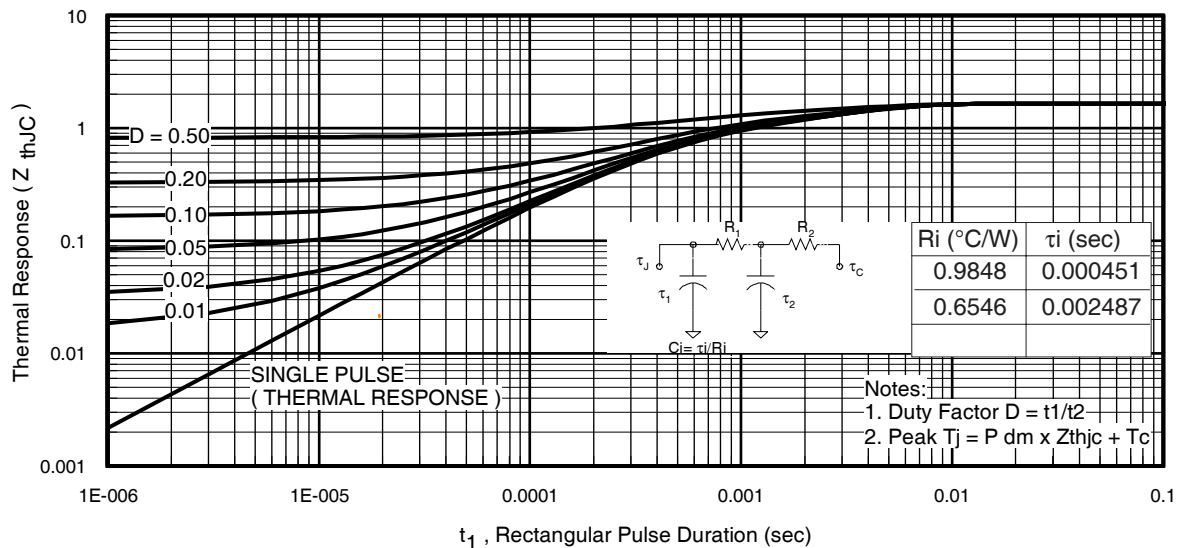
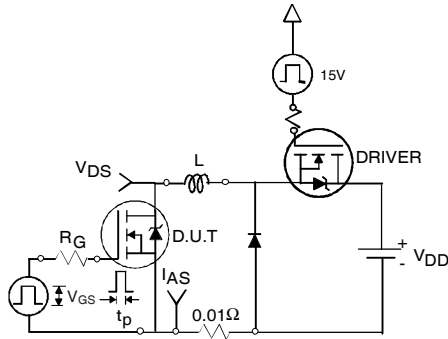

Fig 11. Maximum Effective Transient Thermal Impedance, Junction-to-Case
Fig 12a. Unclamped Inductive Test Circuit
- ① Repetitive rating; pulse width limited by max. junction temperature. (See fig. 11).
- ② Limited by T_{Jmax} ; starting $T_J = 25^\circ\text{C}$, $L = 0.11\text{mH}$, $R_G = 25\Omega$, $I_{AS} = 37A$, $V_{GS} = 10V$. Part not recommended for use above this value.
- ③ $I_{SD} \leq 37A$, $di/dt \leq 920A/\mu s$, $V_{DD} \leq V_{(BR)DSS}$, $T_J \leq 175^\circ\text{C}$.
- ④ Pulse width $\leq 1.0\text{ms}$; duty cycle $\leq 2\%$.
- ⑤ $C_{oss \text{ eff.}}$ is a fixed capacitance that gives the same charging time as C_{oss} while V_{DS} is rising from 0 to 80% V_{DSS} .
- ⑥ Limited by T_{Jmax} , see Fig.12a, 12b, 15, 16 for typical repetitive avalanche performance.
- ⑦ This value determined from sample failure population. 100% tested to this value in production.
- ⑧ This is applied to D²Pak, when mounted on 1" square PCB (FR-4 or G-10 Material). For recommended footprint and soldering techniques refer to application note #AN-994.
3. Equation below based on circuit and waveforms shown in Figures 12a, 12b.
$Z_{thJC}(D, t_{av})$ = Transient thermal resistance, see figure 11)